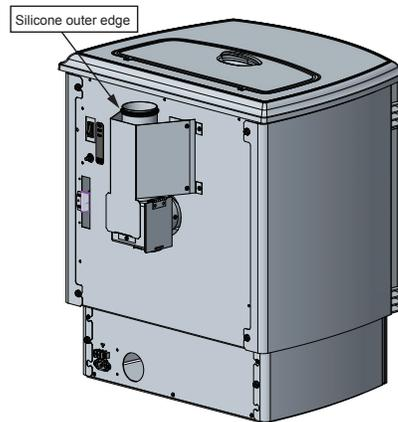

Figure 5
- Put a 1/4 inch bead of silicone on the outer edge of the Top Vent Adapter (C1) exhaust outlet (Figure 5). Following venting manufacturing instructions, install stove pipe to Top Vent Adapter (C1). (NOTE: Appliance adapter from venting manufacture may be required.) Do not apply silicone inside appliance exhaust outlet.